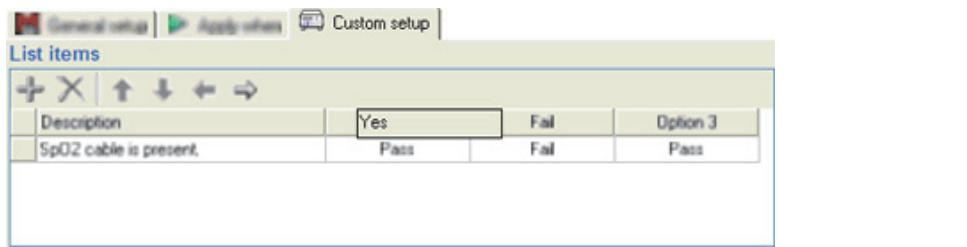

Figure 3-31. Altering a Checklist Options with Custom Name
5. Enter the new name for the option. Figure 3-31 shows the Pass option name being changed to Yes.